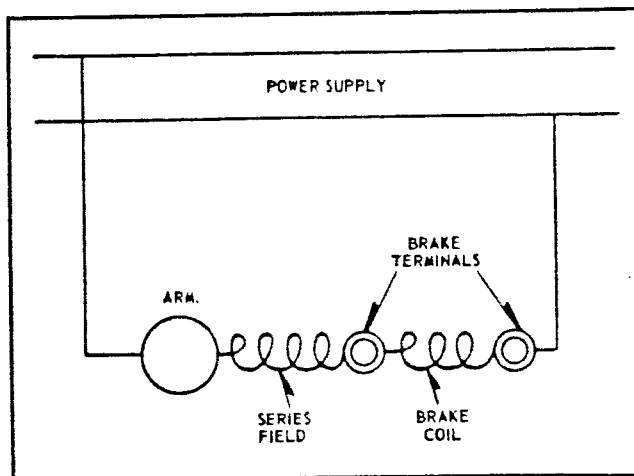
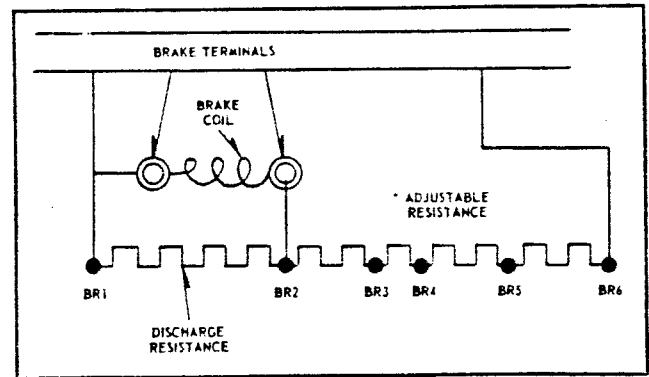
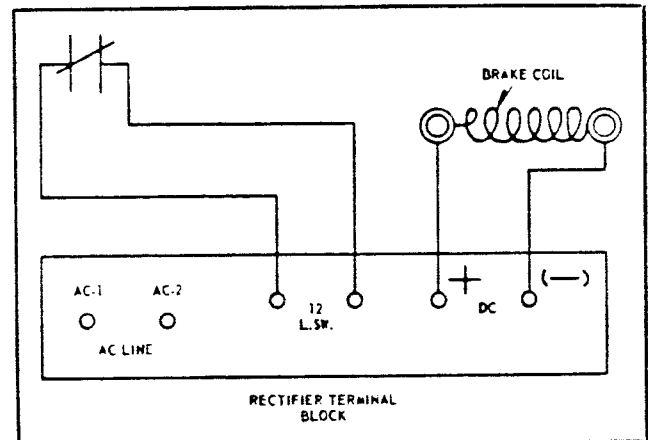

FIG. 3. Brake with Series Coil
FIG. 4. Brake with Shunt Coil
FIG. 5. Rectox Operated Brake
### 7. Coil Connection—See Diagrams Fig. 3, Fig. 4 and Fig. 5.
5. The coil may not be connected as explained in paragraph 7 and Figs. 3, 4, 5.